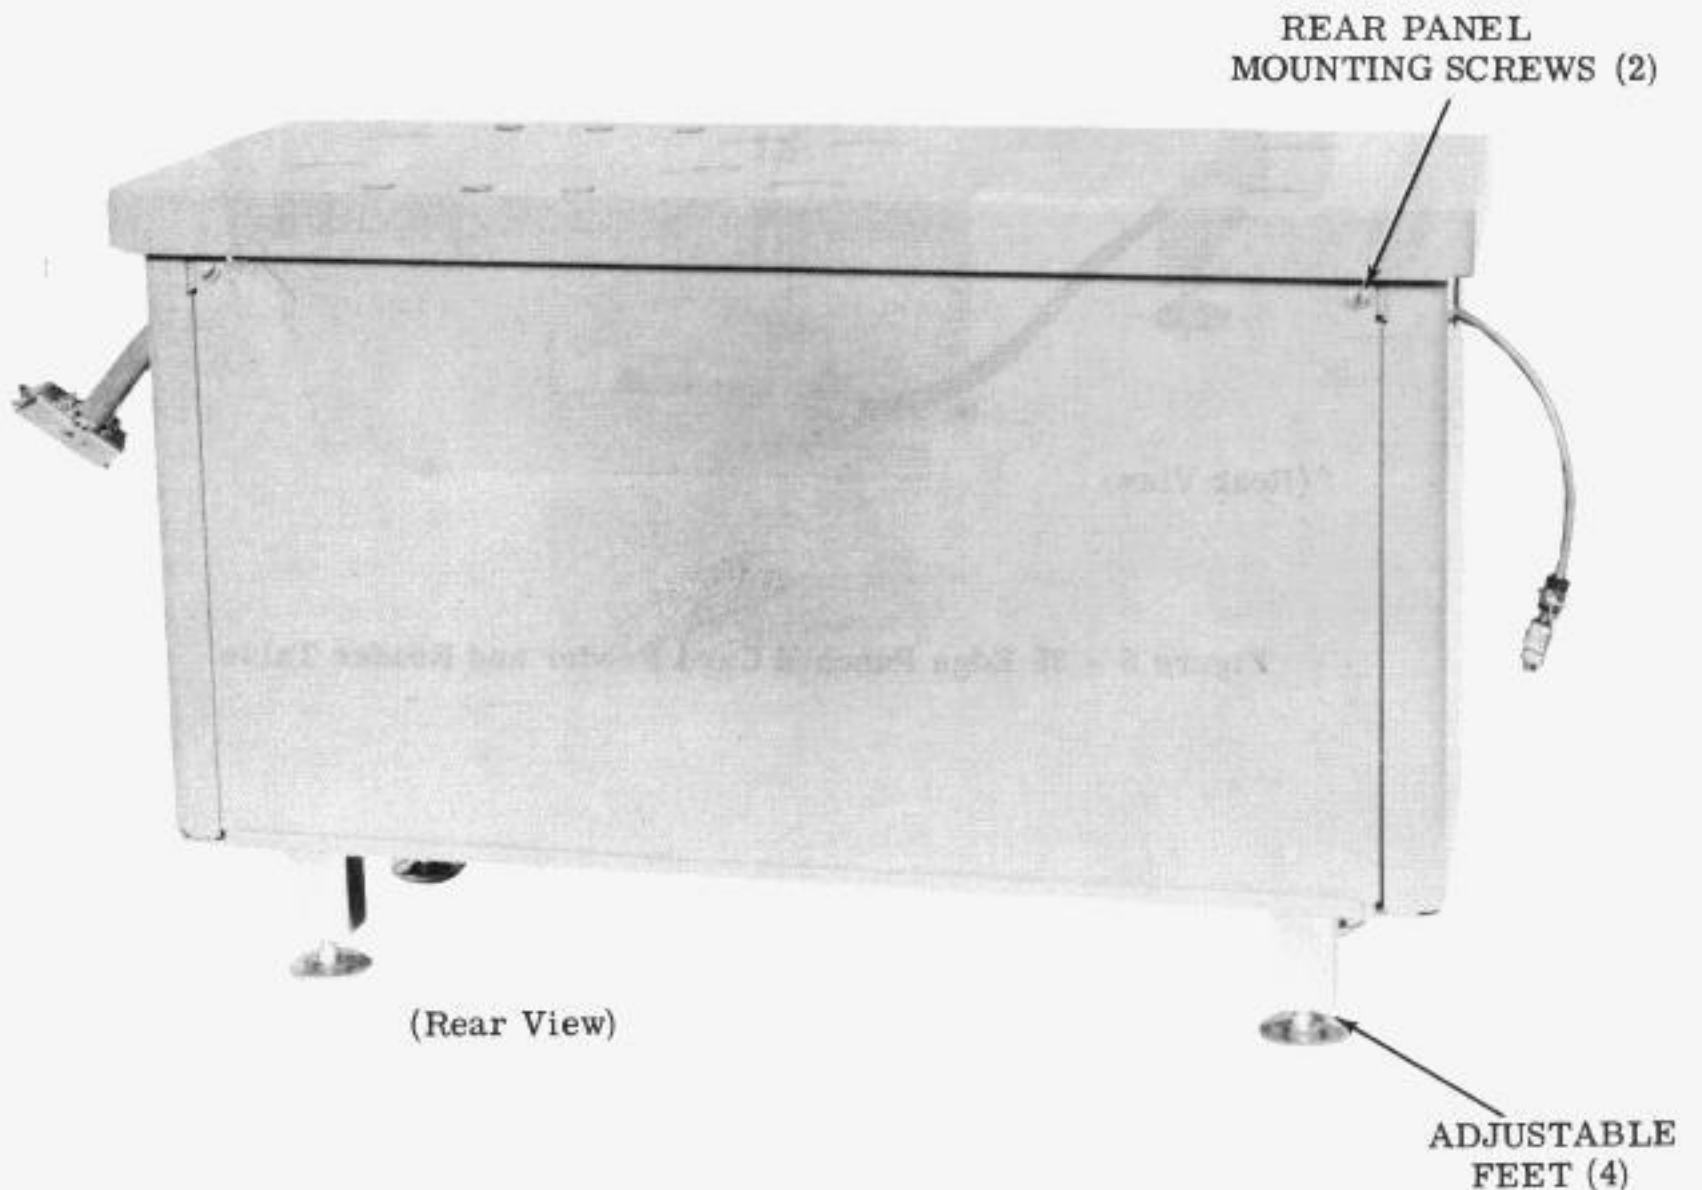

Figure 5 - 35 Edge Punched Card Feeder and Reader Table
2.10 The table is equipped with four adjustable feet for leveling purposes. Each square tubular foot is 2-3/8 inches long with an associated threaded glide 1-3/4 inches in diameter (Figure 5).
2.12 The pedestal rear access panel mounts into a flanged slot at the bottom of the panel opening. The top of the panel is fastened to the top of the pedestal by means of two sheet metal screws (Figure 5).
3.04 Remove the two panel mounting screws and remove the rear access panel to gain access to the cables and electrical components (Figure 5).
4.01 Table Leveling (Figure 5)